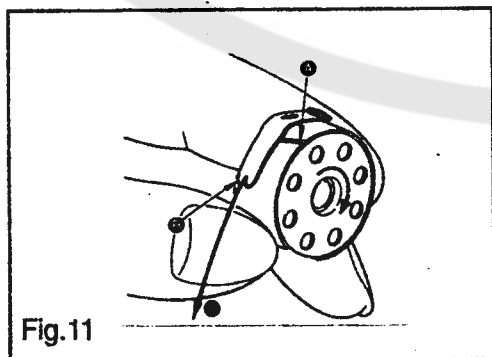

Fig. 11
2) Loosen screw ②, and hold needle ① with its indented part A facing exactly to the right in direction B.
4) Securely tighten screw ②.
8. SETTING THE BOBBIN INTO THE BOBBIN CASE (Fig. 11)